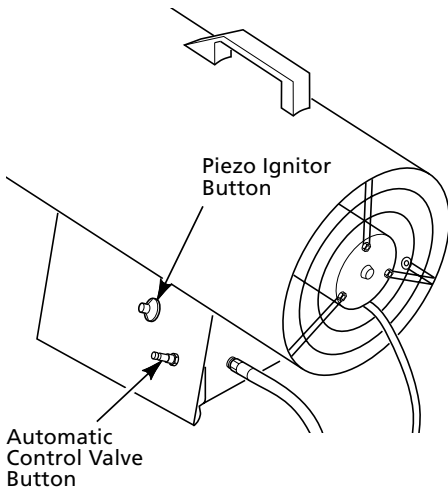

Figure 6 - Automatic Control Valve Button and Piezo Ignitor Button
6. Push in and hold automatic control valve button (See Figure 6). Push piezo ignitor button (See Figure 6). You may need to push piezo ignitor button 3-8 times until the burner lights. When burner lights, keep automatic control valve button pushed in. Release button after 30 seconds.